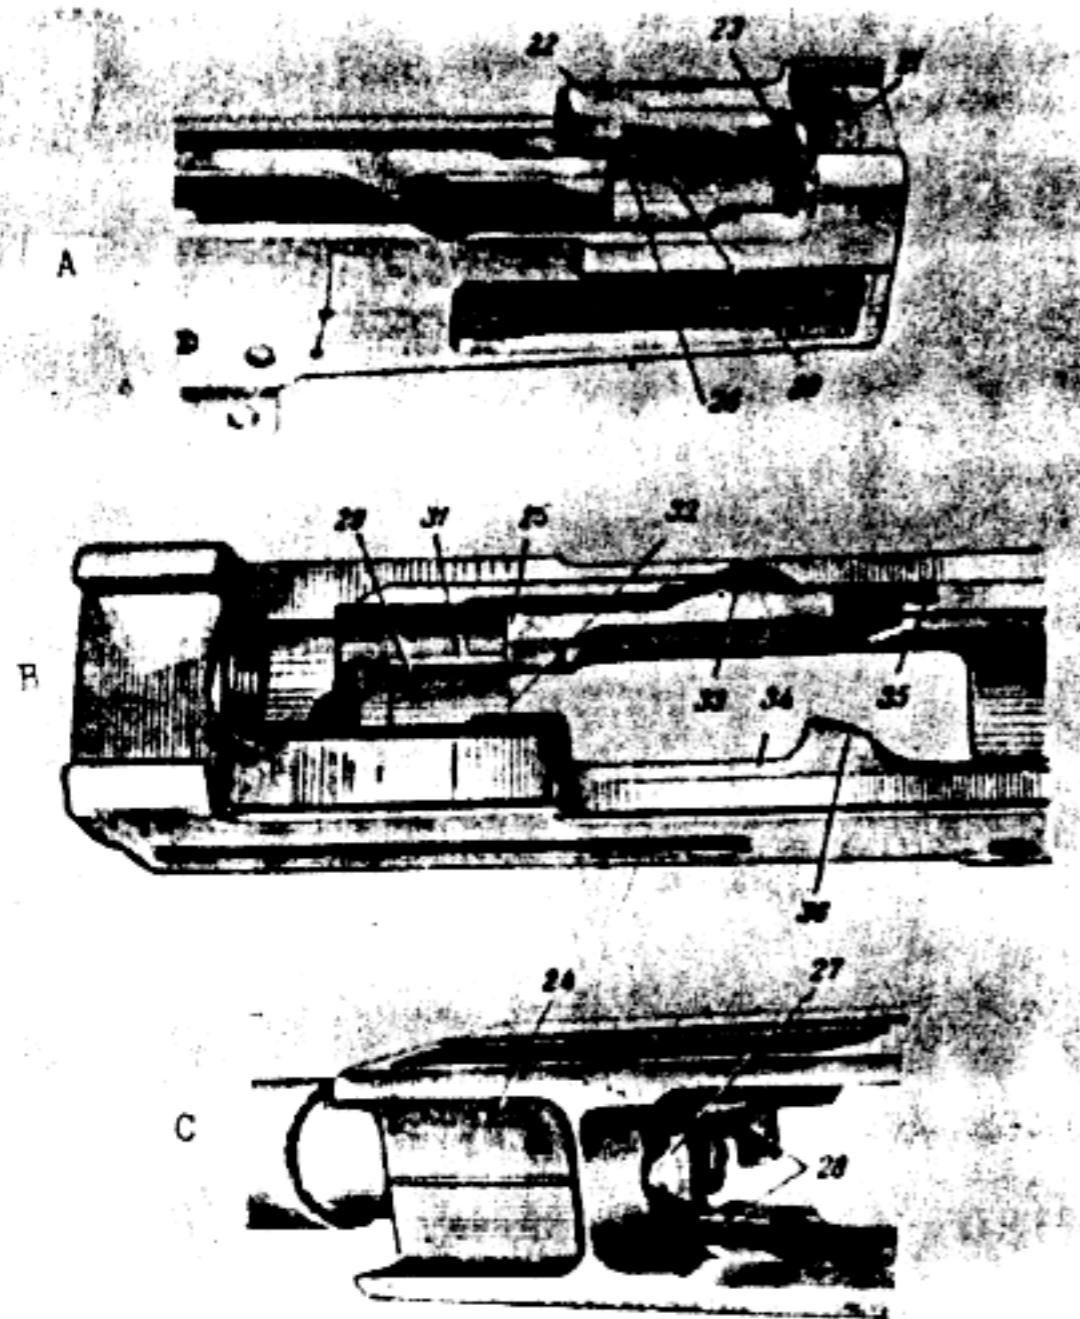

Figure 10. Forward portion of receiver.
In the top portion of the receiver (fig. 10) there is a groove (21) for the rear portion of the rear sight base; lug (22) in which the left locking lug is formed; shoulder (23)